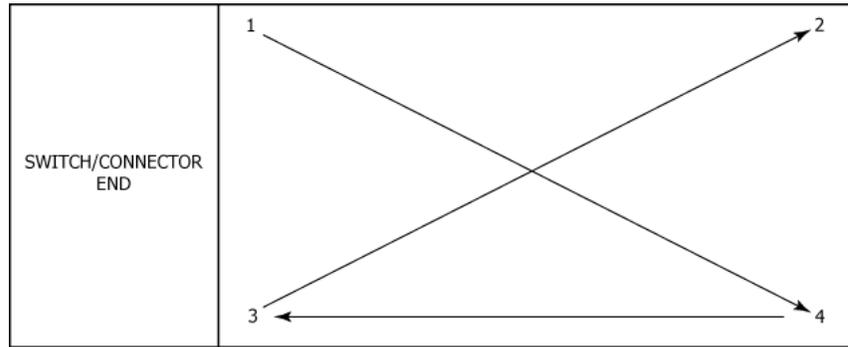

Figure 26 Battery Pack Screw Tightening Pattern
- 11) Tighten and torque the screws as shown in Figure 26 Battery Pack Screw Tightening Pattern. Torque to 6-8 lb-in (68-90 N•cm).